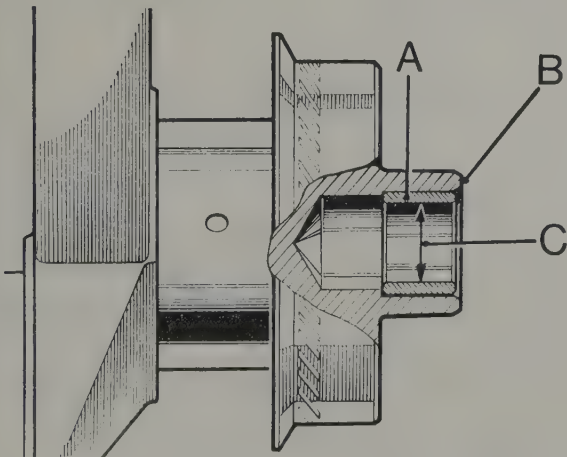

Fig. 1.65. Replacing spigot bearing
- 4 Push in the new bearing "A" which should finish flush with the end face of the crankshaft "B". Below this level is acceptable provided it does not recess more than 0.063 in (1.6 mm). (See Fig. 1.65).